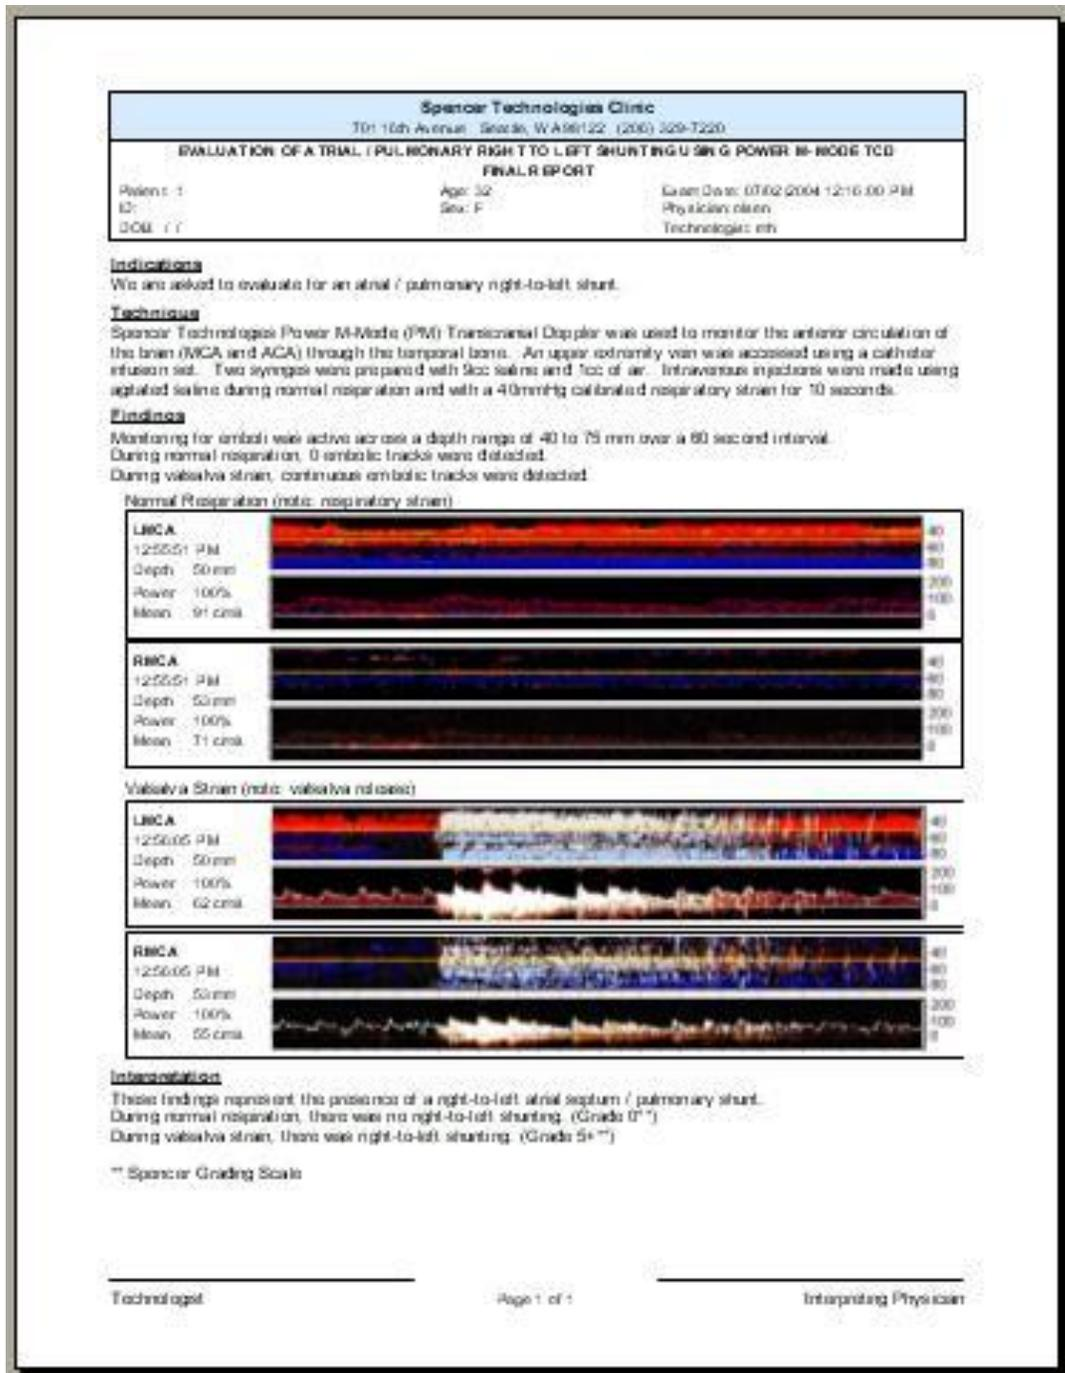

Figure 14 – Sample of a Right-to-Left Shunt Grading Report
- **RLS / PFO report** – designed specifically for RLS / PFO diagnostic exams. See Figure 14, page 39.